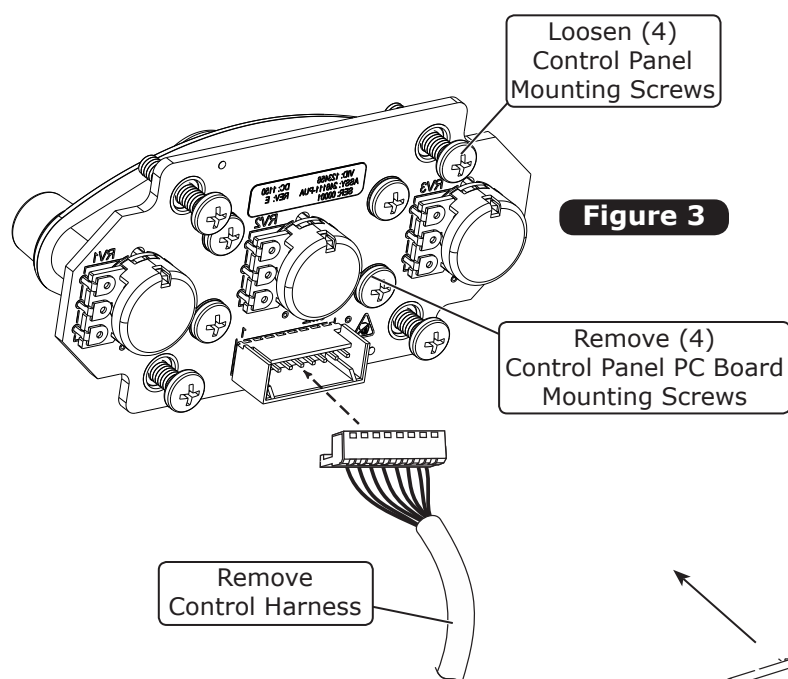

Figure 3
1. Disconnect the control harness from the back of the control panel assembly (See Figure 3, below).
2. Loosen the (4) control panel mounting screws securing the control panel to the dash (See Figure 3, below).
3. Remove the (4) 8-32 x 3/8" screws securing the PC board assembly to the control panel face (See Figure 3, below).